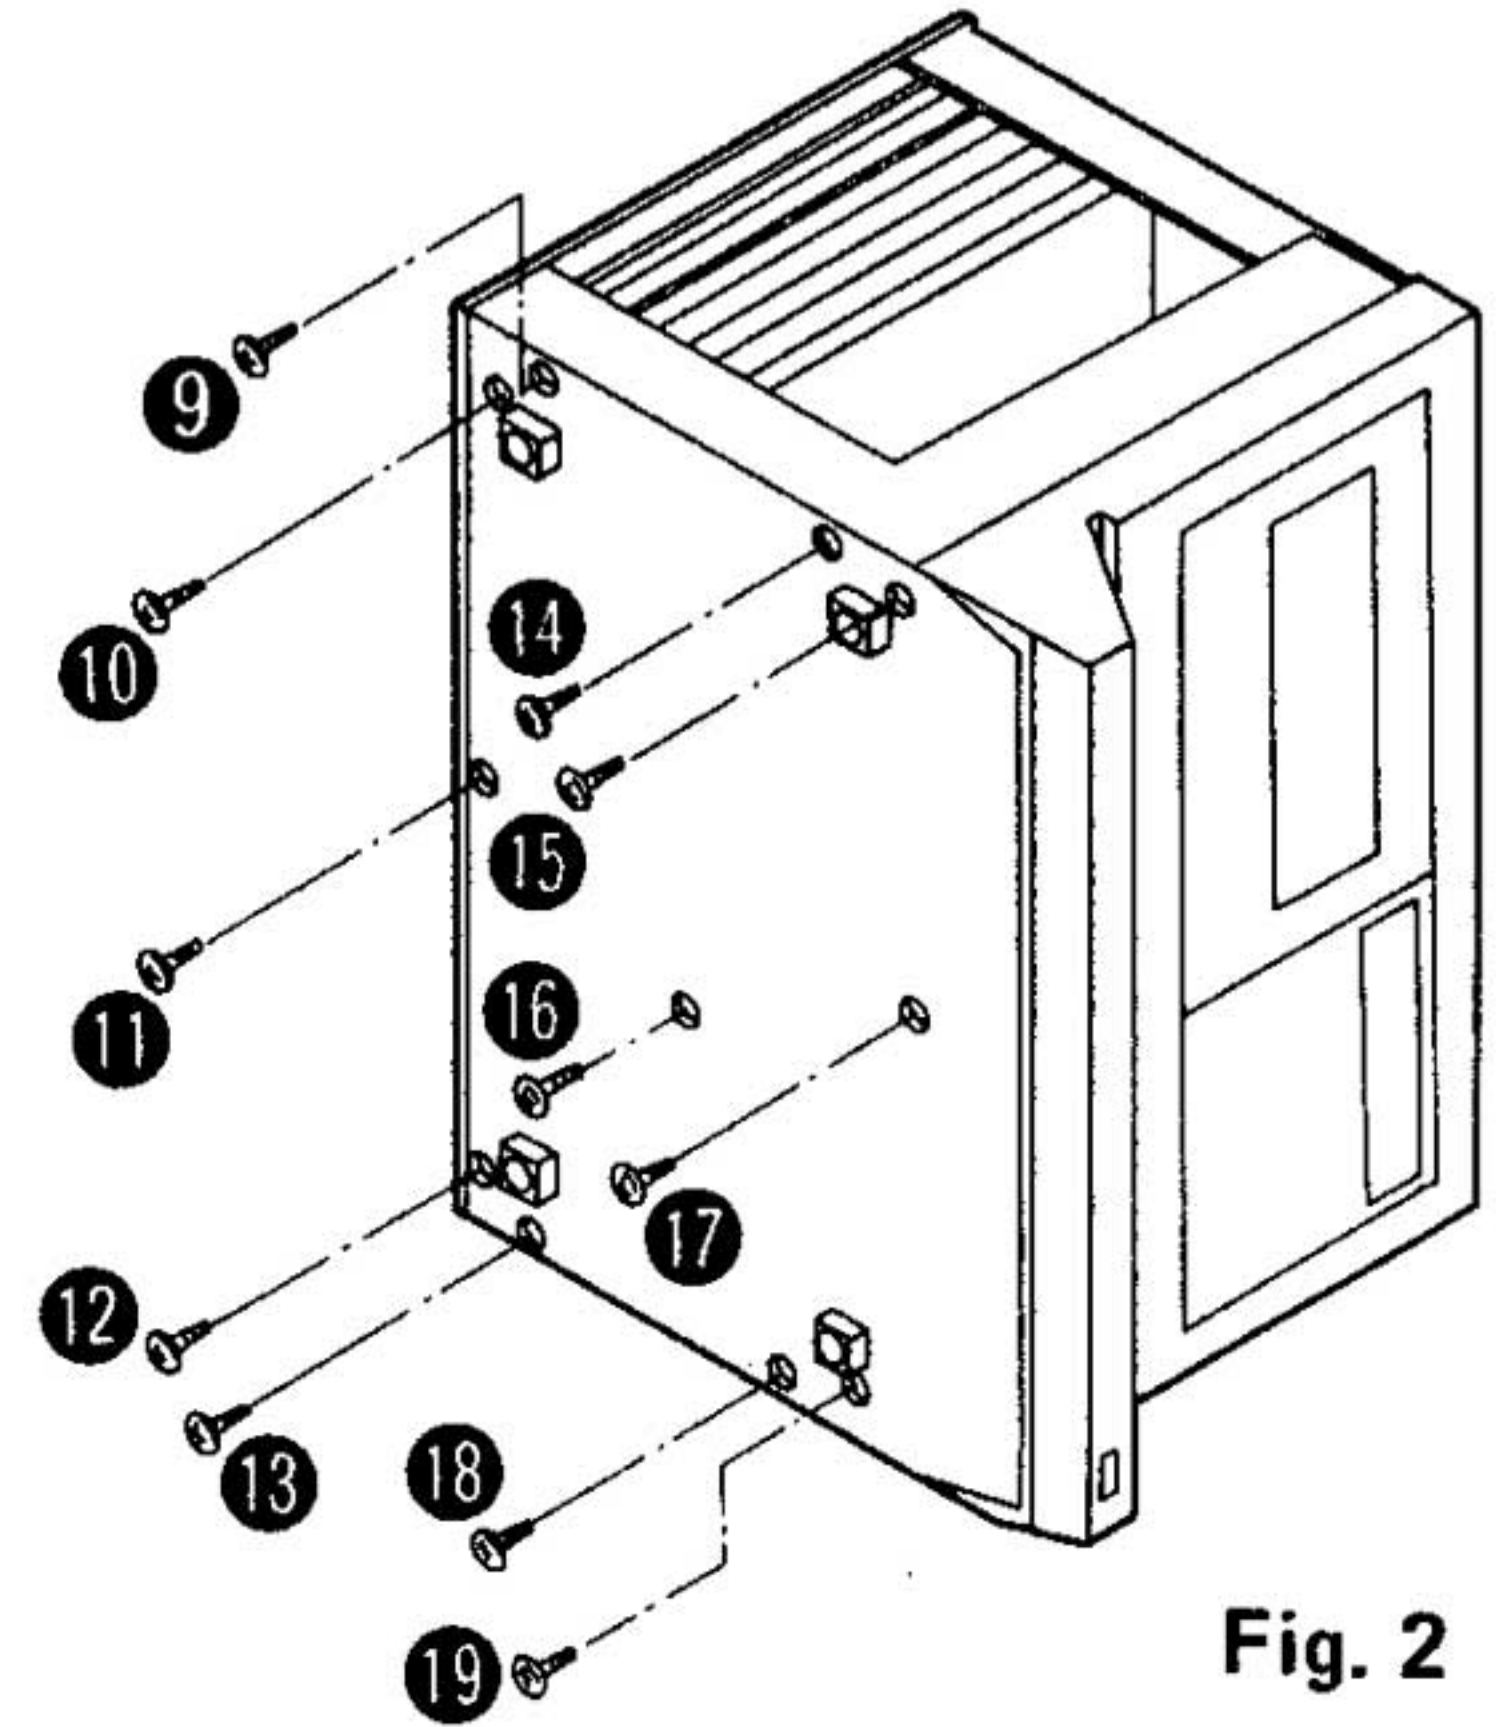

Fig. 2
1. Remove the 11 setscrews (Fig. 2 : ⑨ ~ ⑲) to the bottom board.